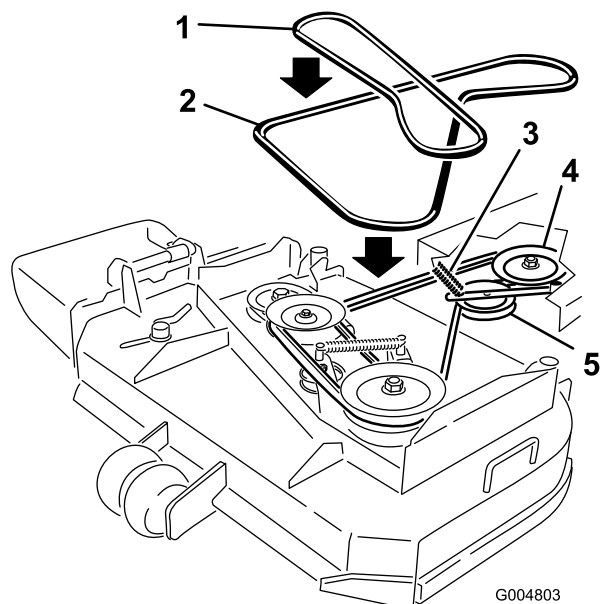

Figure 45
6. Roll the belt off the center pulley on the mower deck (Figure 45). Use caution when removing the belt as tension will increase because of the spring loaded idler pulley.
7. Remove the belt from the engine pulley and the spring-loaded idler pulley (Figure 45).
8. Install the new belt onto the engine pulley and spring-loaded idler pulley (Figure 45).
9. Roll the belt onto the center pulley on the mower deck (Figure 45). Use caution when install the belt as tension will increase because of the spring loaded idler pulley.